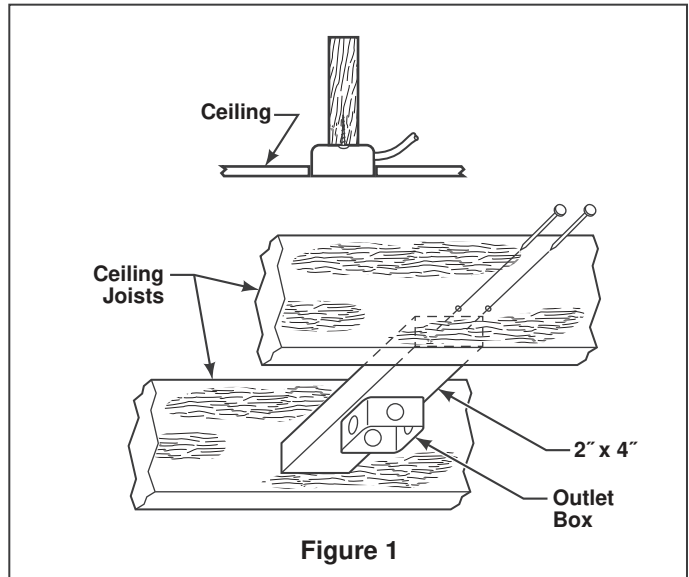

Figure 1
**NOTE:** If you are uncertain of part description, refer to exploded view illustration. (Figure 1, page 9)
Your new ceiling fan will require a grounded electrical supply line of 120 volts AC, 60 Hz, 15 amp circuit. The outlet box must be securely anchored and capable of withstanding a load of at least 50 lbs. **Figure 1** depicts different structural configurations that may be used for mounting the outlet box.
1. Remove the hanger ball by loosening the setscrew in the hanger ball until the ball falls freely down the downrod. Remove the pin from the downrod, then remove the hanger ball. Retain the pin and hanger ball for reinstallation in Step 5. (Figure 1)